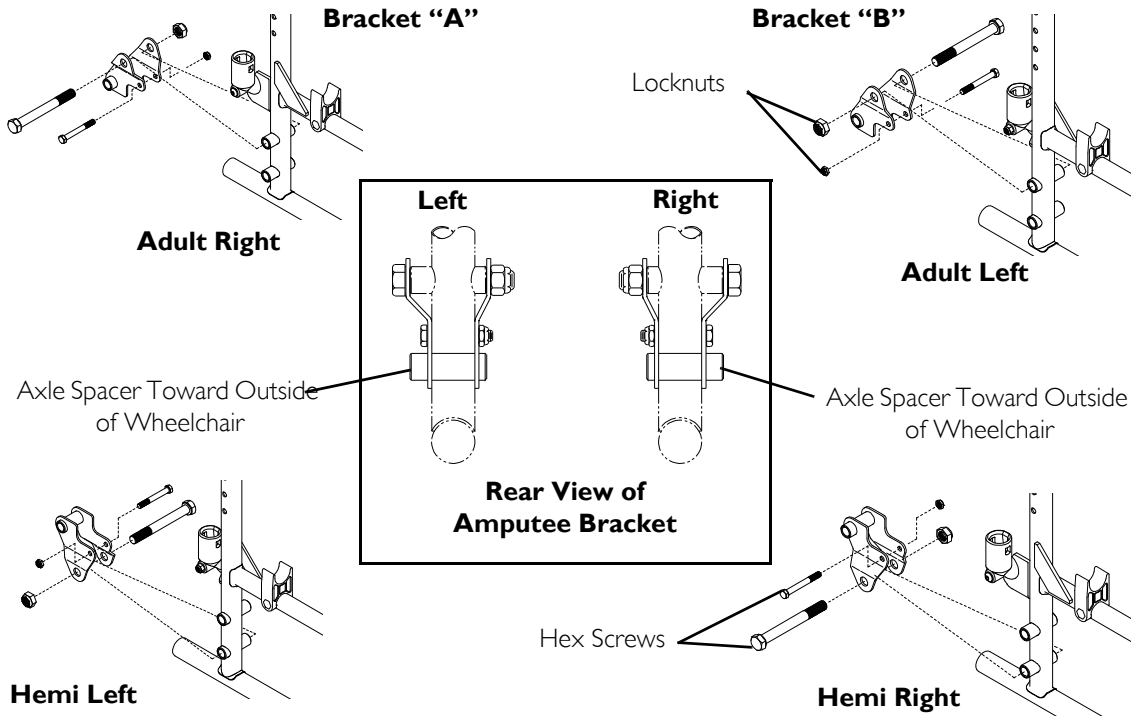

FIGURE 11.1 Installing Amputee Bracket
NOTE: For this procedure, refer to FIGURE 11.1 on page 38.
1. Refer to the following chart or FIGURE 11.1 to determine the mounting position of the amputee bracket: